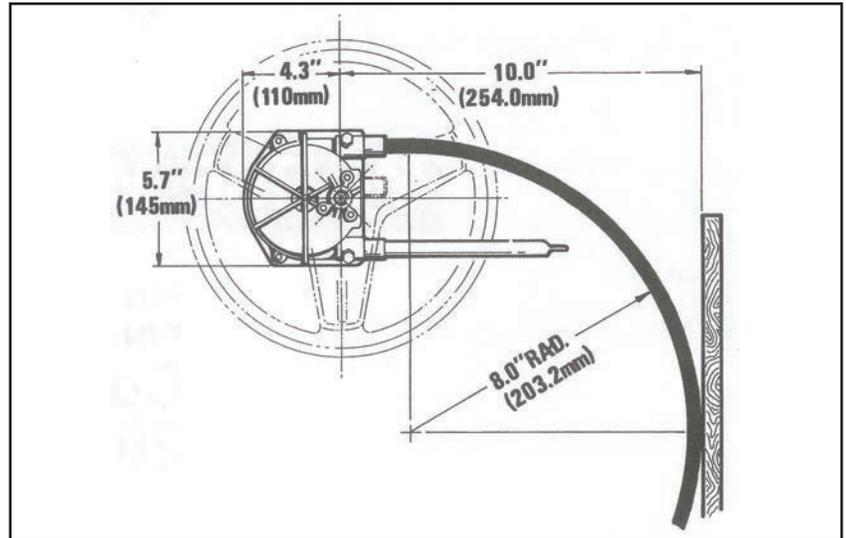

Figure 1.
**STEP 2.** Refer to Figures 1, 2, and 3 for mounting dimensions.